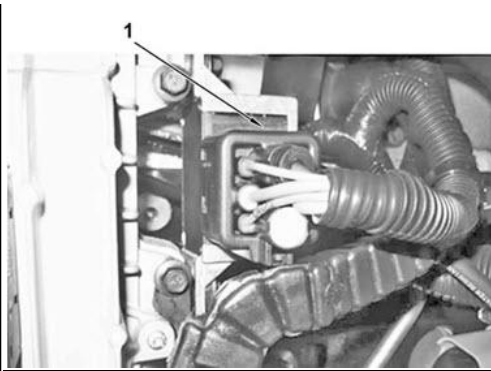

**Figure 6 - Cold Start Fuel Solenoid**
9. Remove 2 bolts and remove cold start solenoid from bracket (take care not to kink nylon supply line) (Figure 6, Items 1 and 2).